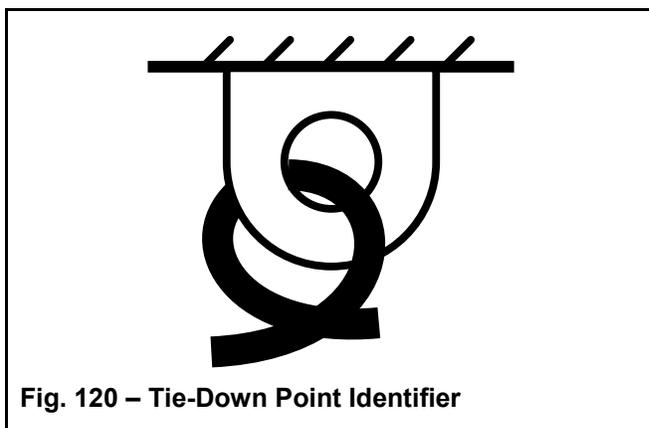

Fig. 120 – Tie-Down Point Identifier
- c. Securely strap the machine at the tie-down points (Fig. 120) to the platform. Use only belts or chains of sufficient capacity.